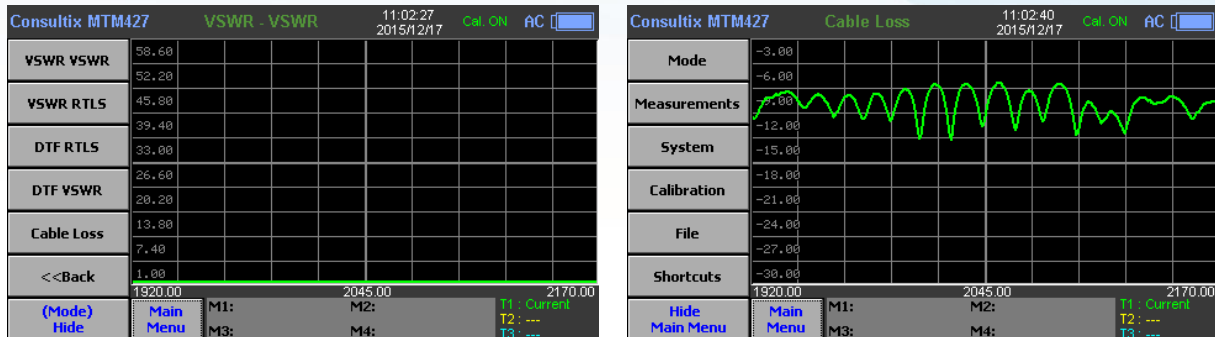

Figure 47: Cable Loss Measurement
2. **Main Menu > Mode**, select "Cable Loss" mode as shown in **figure 47**